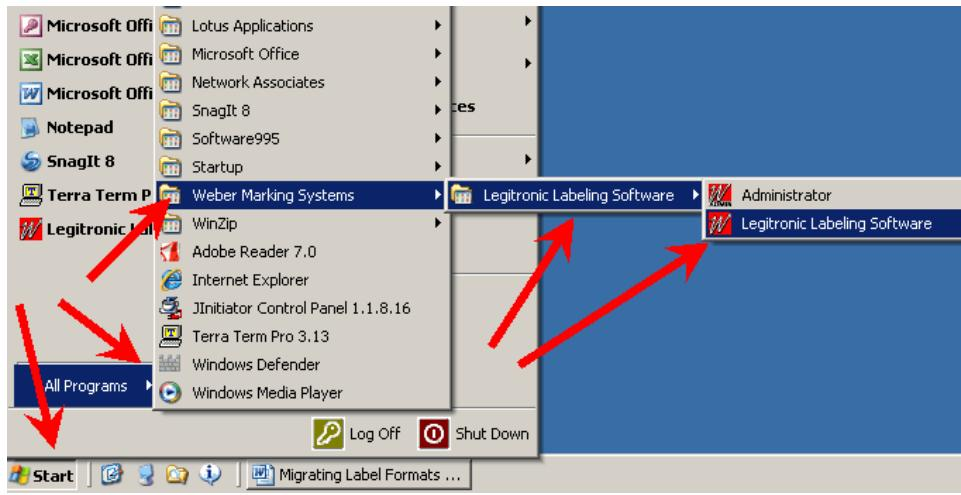

Figure 47
56. Start the Legitronic Labeling Software. (Start ► All Programs ► Weber Marking Systems ► Legitronic Labeling Software ► Legitronic Labeling Software) (Figure 47)